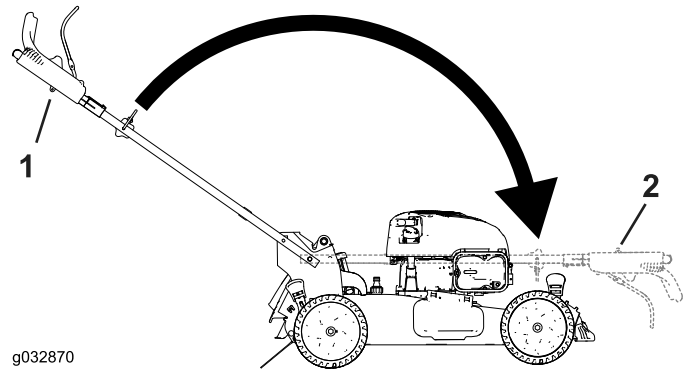

Figure 27
- Fold the handle by rotating it forward (Figure 27).